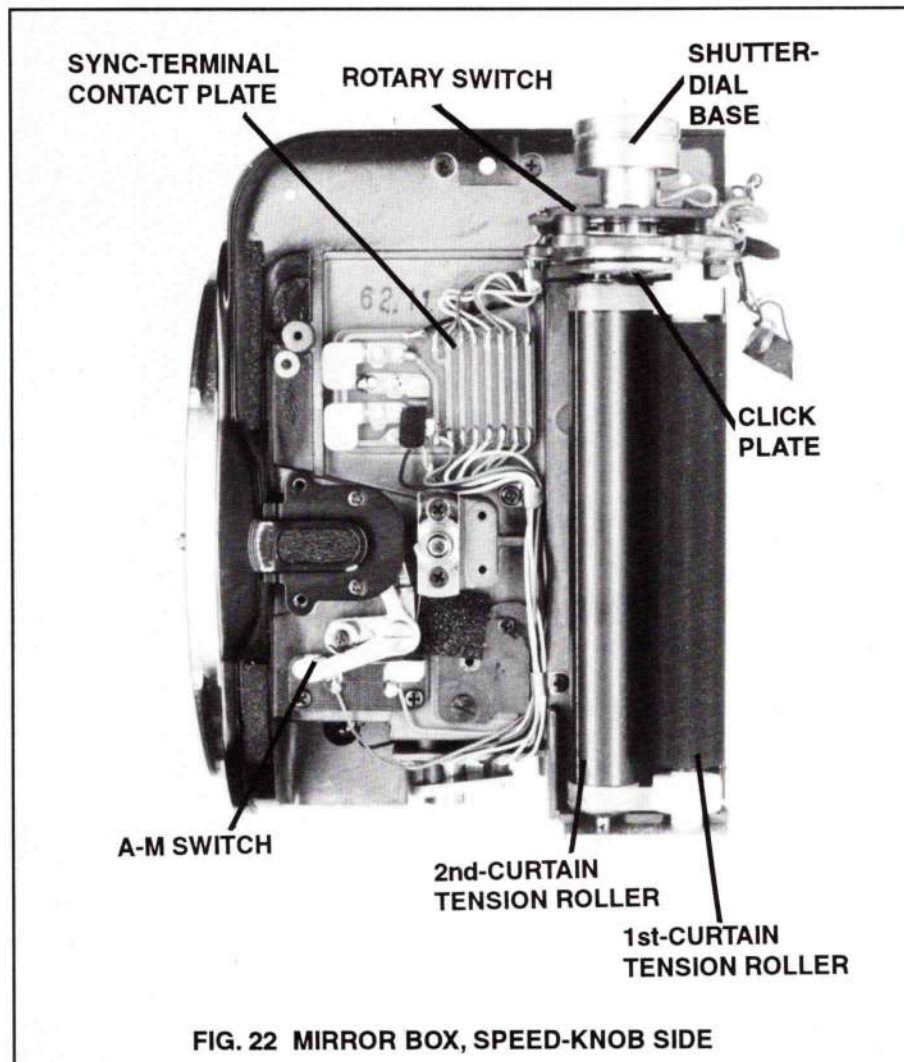

FIG. 22 MIRROR BOX, SPEED-KNOB SIDE
11. lift out mirror-box/shutter assembly toward top of body casting, Fig. 22
3. **Rotary switch.** Remove the left-side top cover, Fig. 1. Set the shutter-dial base (brass shaft, Fig. 22) to bulb—the notch in the shutter-dial base then faces the front of the camera. Remove the shutter-dial base by unscrewing the nut (top). Fig. 34 shows the wiring to the rotary switch. On reassembly, make sure the click plate, Fig. 22, is still on the bulb hole. Turn the movable contact of the rotary switch until it centers on the bulb contact, Fig. 33. Replace the shutter-dial base with its downward-projecting tab facing the front of the camera.